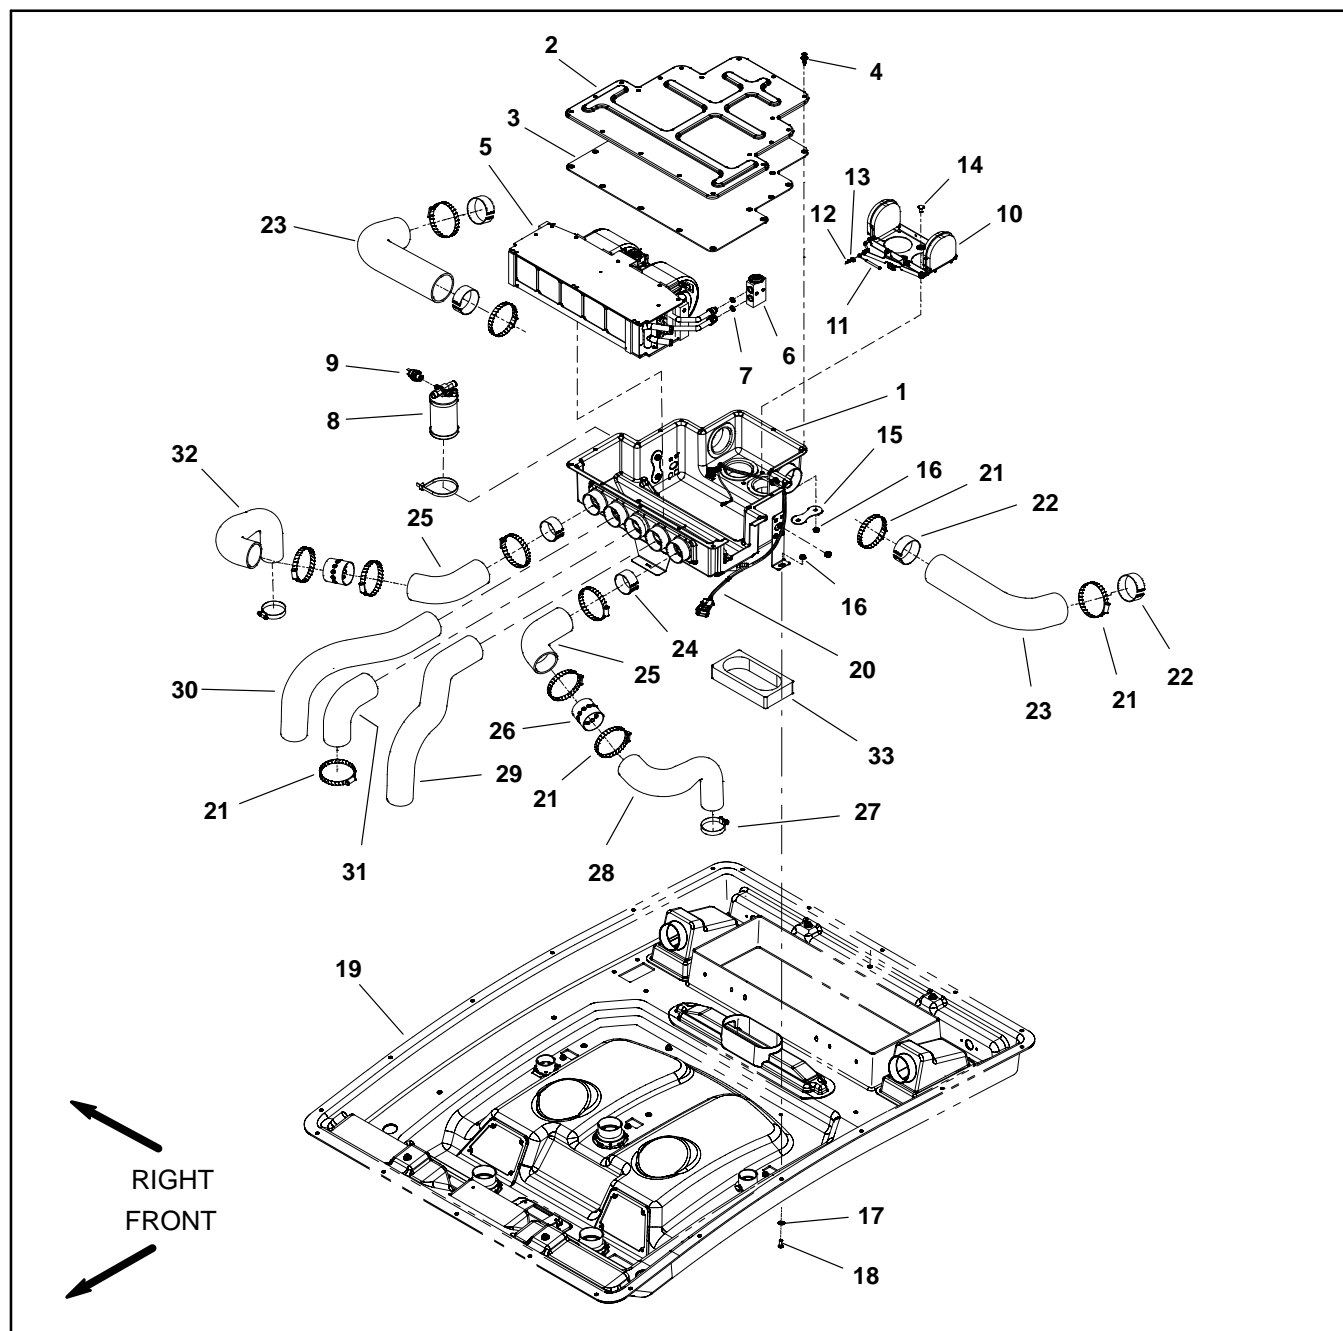
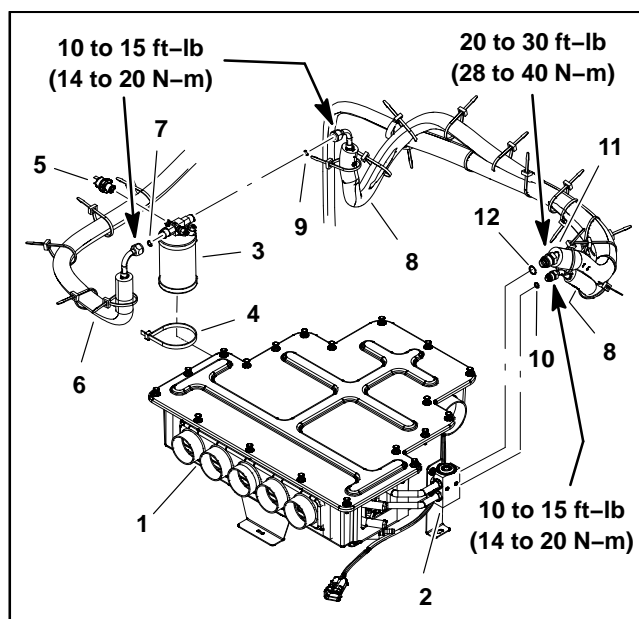

Figure 10
Figure 12
Removal (Fig. 10)
6. Remove mixing box components as necessary using Figures 10, 11 and 12 as guides.
Installation (Fig. 10)
1. Install all removed mixing box components using Figures 10, 11 and 12 as guides. Make sure that expansion valve is covered with insulating tape to prevent condensation issues. Also, use torque specifications shown in Figure 12 to properly tighten hoses connected to the expansion valve and drier–receiver.